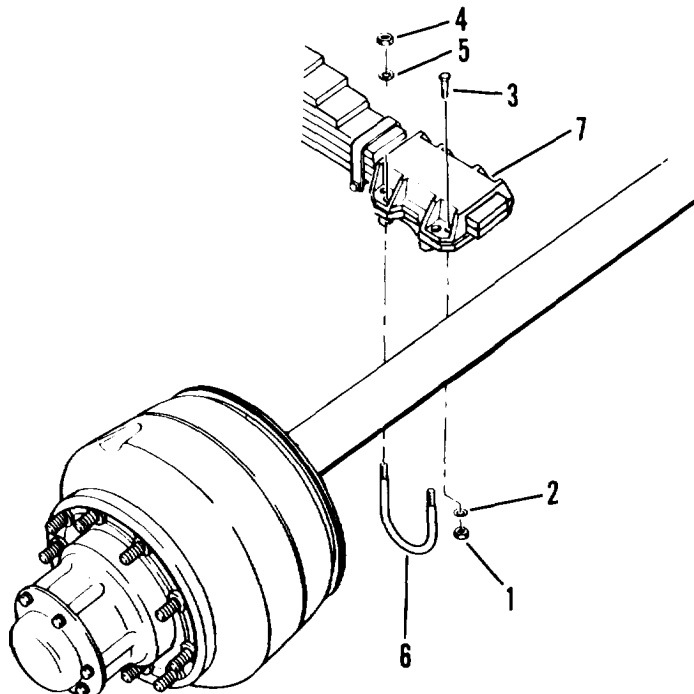

Figure 5-1. Axle replacement
- (1) Support both axles on each side and frame.
- (2) Cage failsafes (para. 3-10).
- (3) Tag and disconnect air brake chamber air hoses (para. 4-37).
- (4) Remove four nuts (1, figure 5-1), washers (2) and bolts (3). Repeat for other side of axle.
- (5) Remove four nuts (4), washers (5) and two u-bolts (6). Repeat for other side of axle.
- (6) Remove spring cap (7) from each side of axle. Slowly remove axle.
- (6) Remove spring cap (7) from each side of axle.
- (7) Lift front of semitrailer using suitable lifting device. Slowly remove axle from the front.
- (8) Remove tires, wheels, air brake chambers and slack adjusters (see Chapter 4).
- (6) Install spring cap (7, figure 5-1) on each side of axle.
- (7) Install two u-bolts (6), four washers (5) and nuts (4). Torque to 730 lb ft (990 Nm). Repeat for other side of axle.
- (8) Install four bolts (3), washers (2) and nuts (1). Torque to 300 lb ft (408 Nm). Repeat for other side of axle.